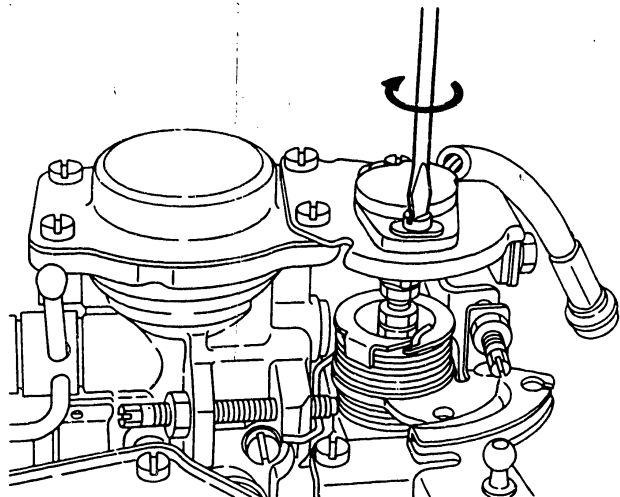

Fig. 215 Temporarily installing the potentiometer
1. Temporarily install the adjusting bolt (310/5), nut (310/6) and potentiometer (310) without the joint (310/7). (Fig. 215 )